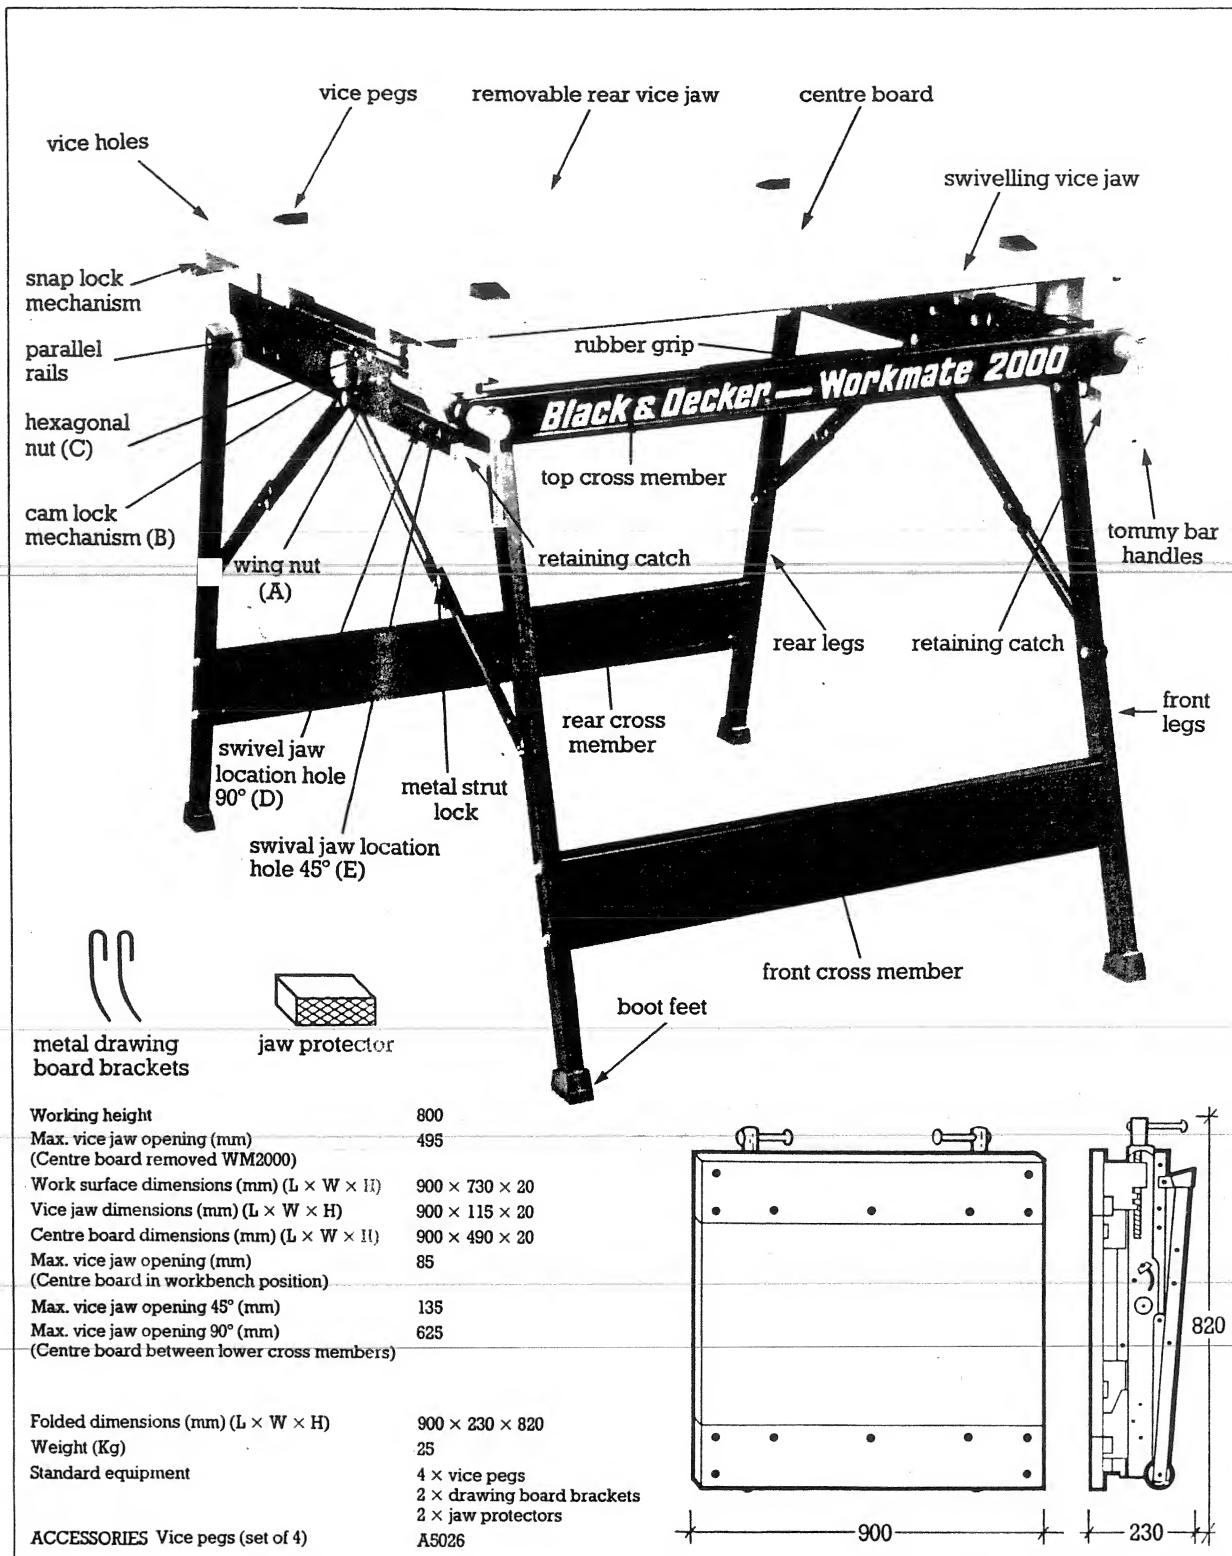
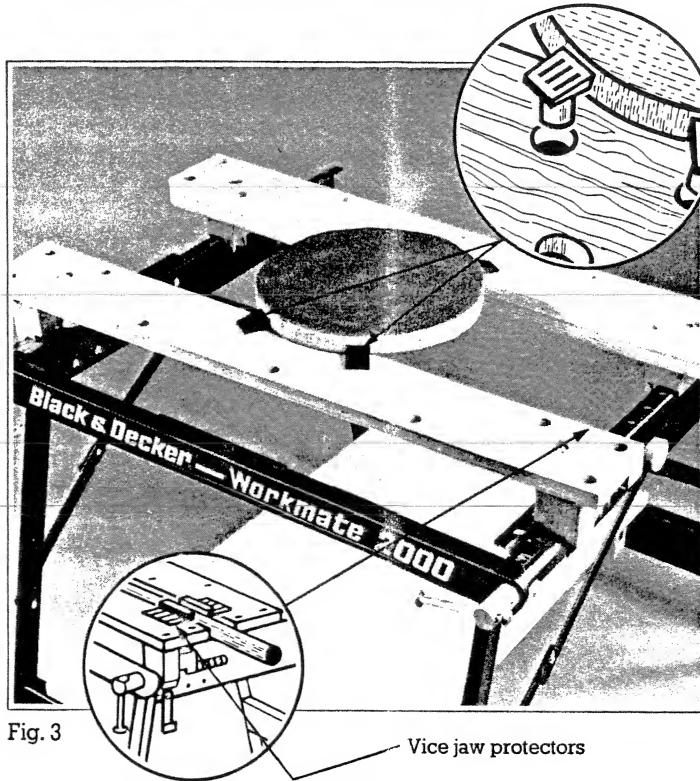
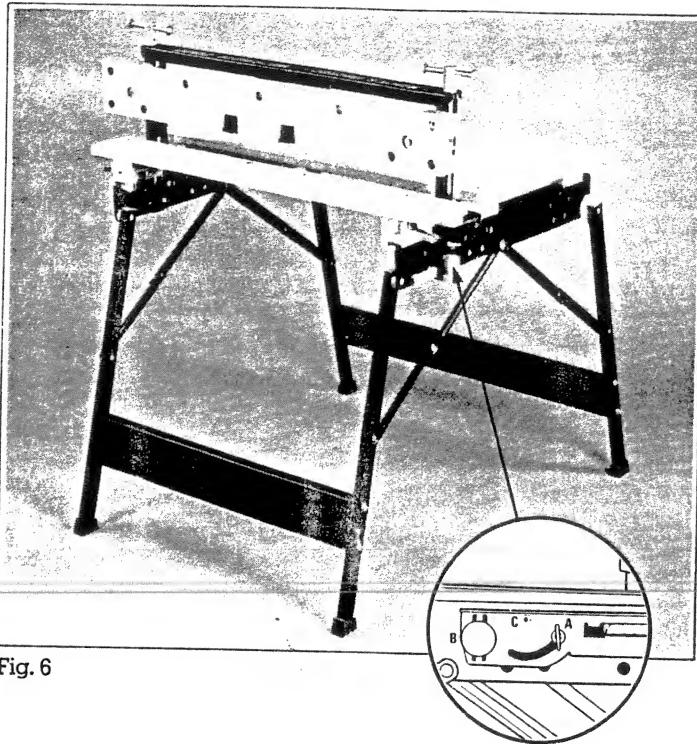
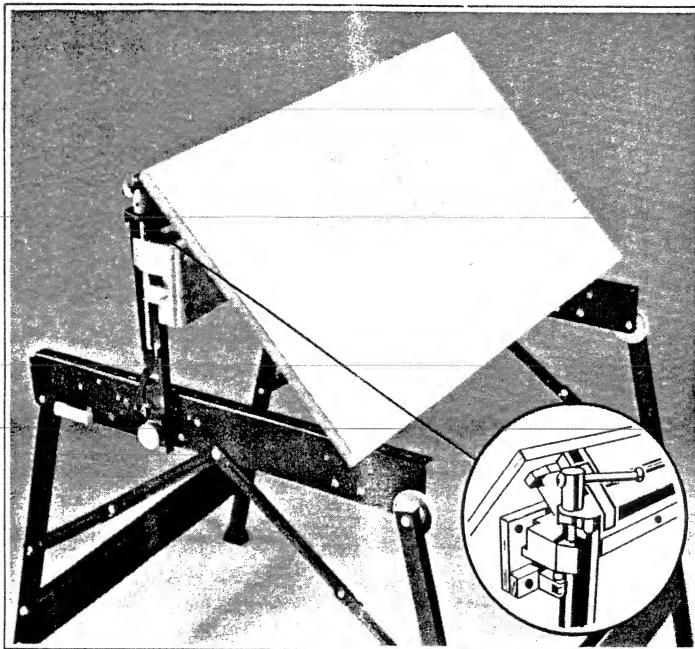

Fig.1
Fig. 3
Fig. 6
Fig. 9
- (A) Four vice pegs - ideal for clamping irregular shaped work pieces safely fig. 3.
- (B) Two jaw protectors - ideal for gripping pipes etc, securely either vertically or horizontally.
- (C) Two metal drawing board brackets as shown in fig. 9.
Note: remember to use the swivel jaw clamping press location holes (D) fig. 1.
Follow the procedure shown in 90° clamping fig. 6 ensuring that the metal pins of the cam locks are released into the holes provided for 45° angles.(E) fig. 1.
The WM2000 can be converted into a drawing board with the aid of the two metal brackets provided. Follow the set up procedure in fig. 6. 90° vice adjustment. Set the swivelling vice jaw as shown in fig. 9. The removable vice jaw should be either removed as shown in fig. 9. or positioned at the front end of the parallel rails.
Lock the metal brackets into the plastic base supports (rectangular supports) of the centre board and clip over the front top cross member. As shown. fig. 9.